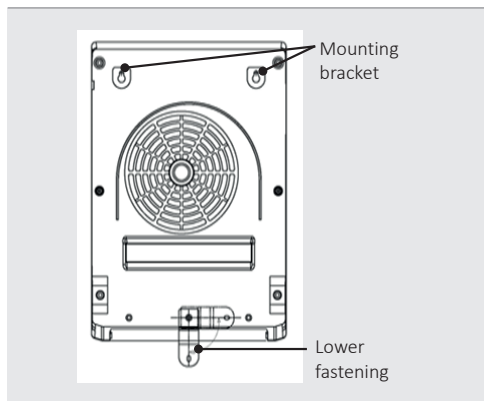

Fig. 4: Attachment
5. The lower fastening (see Fig. 4) must be attached for a secure hold. Turn this downwards for the purpose. Draw a marking through the hole onto the wall.